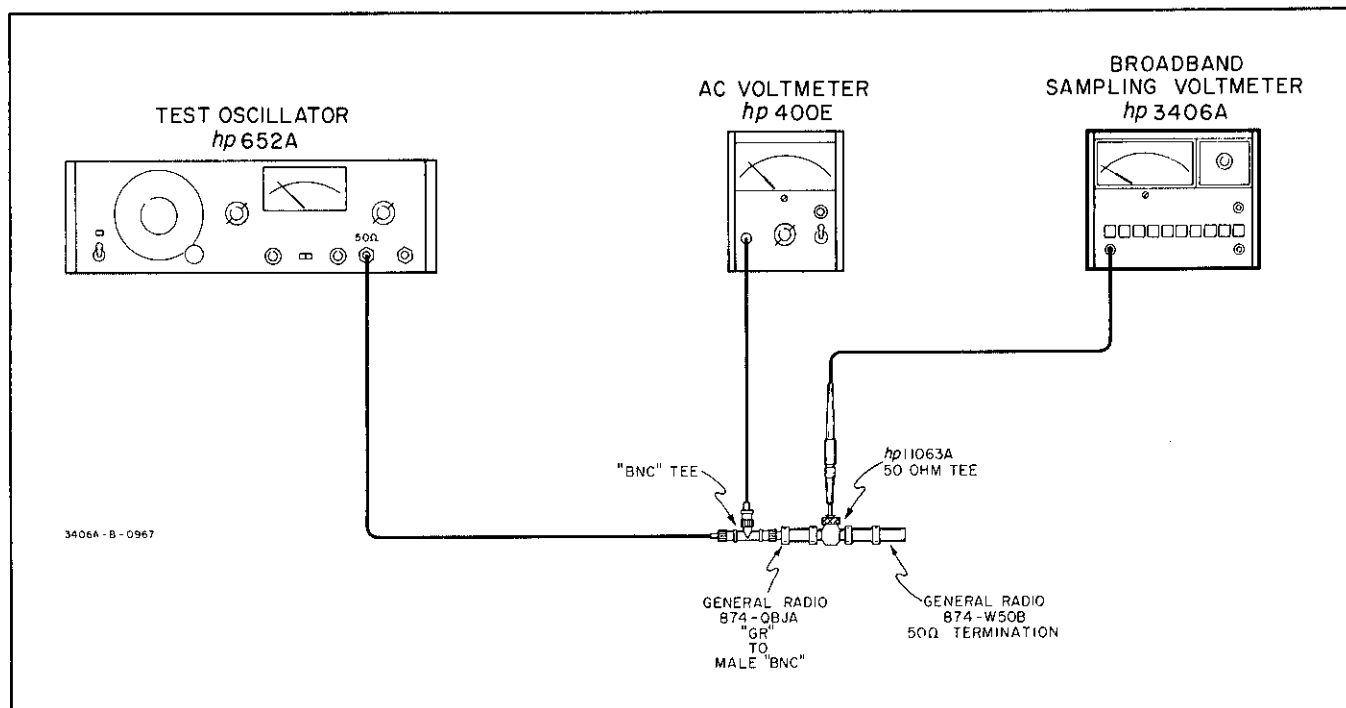

Figure 5-7. Tracking Adjustment Setup
- b. Connect test setup illustrated in Figure 5-7; set oscillator output frequency to 1 MHz; and output voltage for 100 MV indication on ac voltmeter.
- d. Adjust (12) .1 FS (A2R95) for 3406A meter indication of 0.1 on 0 to 1 scale.
- e. Using oscillator attenuator increase output 10 dB; adjust (13) .316 FS (A2R94) for 3406A meter indication of 1 on 0 to 3 scale (which is 0.316 of FS on 0 to 1 scale).
- f. Using oscillator attenuator increase output 10 dB; adjust (14) FULL SCALE (A2R92) for 3406A meter indication of 1 on 0 to 1 scale.
- h. Using oscillator attenuator reduce output 10 dB; adjust (15) .1 FS (A2R98) for 3406A meter indication of 0.1 on 0 to 1 scale.
- i. Using oscillator attenuator increase output 20 dB; adjust (16) FS (A2R97) for 3406A meter indication of 1 on 0 to 1 scale.
- k. Using oscillator attenuator reduce output 10 dB; adjust (17) .1 FS (A2R100) for 3406A meter indication of 0.1 on 0 to 1 scale.
- m. Using oscillator attenuator increase output 20 dB; adjust (18) FS (A2R99) for 3406A meter indication of 1 on 0 to 1 scale.